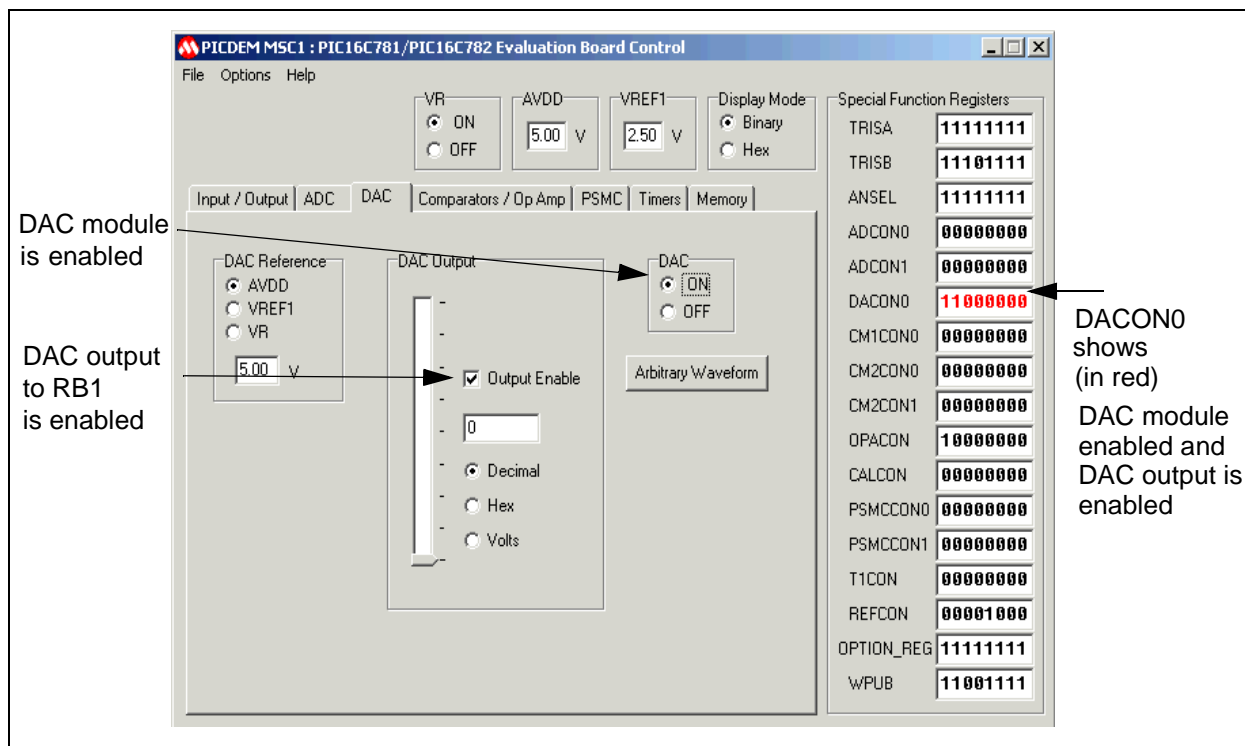

Figure 3.5: Enabling the DAC Module and Output
9. Select the Arbitrary Waveform button on the DAC control section of the Control Panel. The Arbitrary Waveform dialog box displays, as shown in Figure 3.5.